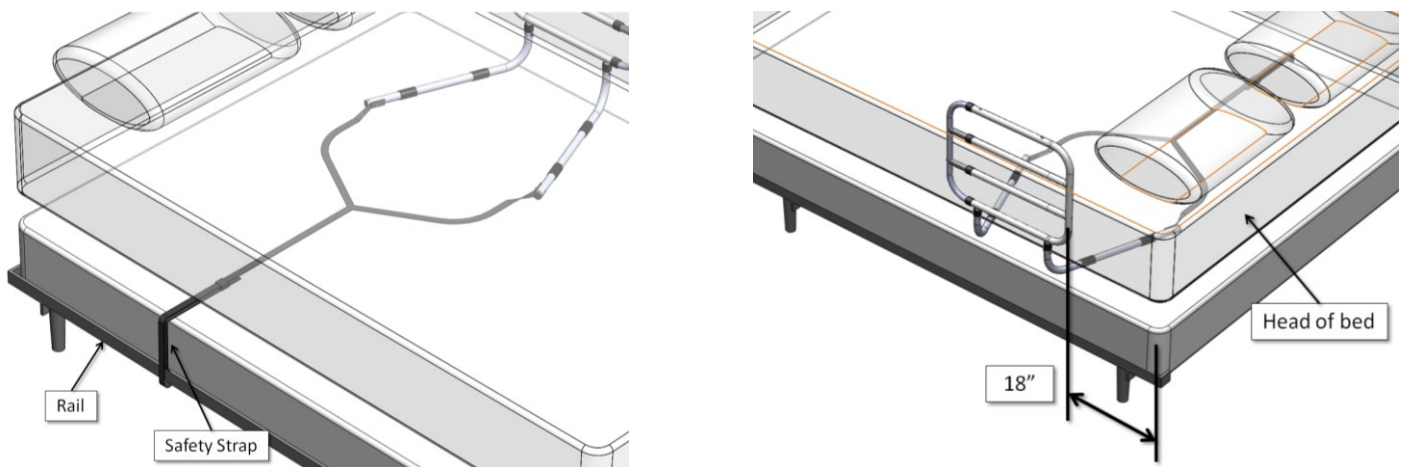

Figure 5
5. After assembly, place product “between” the mattress and box spring of the bed and secure the Safety Strap to the rail on the other side of the bed. Also place the vertical edge of the Bed Rail approximately 18” away from the head of the bed as shown in Figure 5.